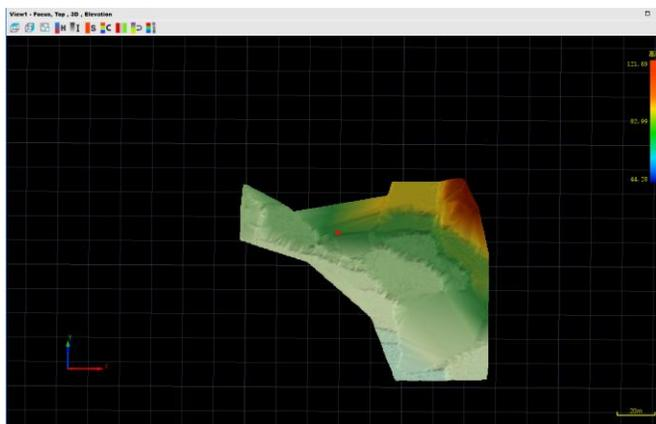

Figure 3-138 Generated DEM model file
4. After the generation of files need to be manually loaded in the software (Figure 3-138).